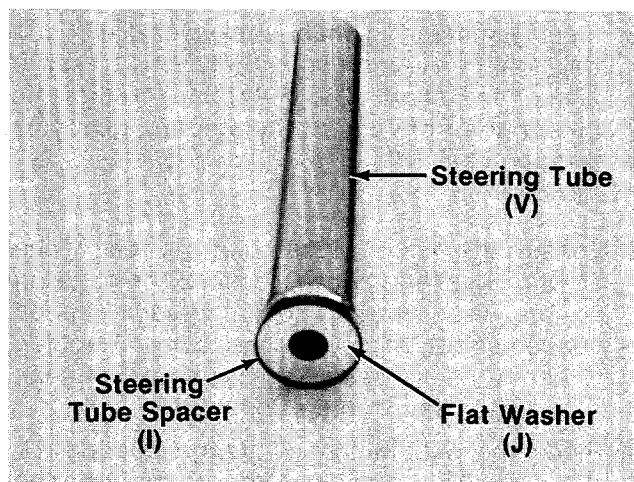

FIGURE 4.
2. Press the large **flat washer (J)** (1-5/8" diameter) into the open side of the black plastic **steering tube spacer (I)**. See figure 4.
3. Press the **steering tube spacer** into one end of the chrome-plated **steering tube (V)**. See figure 4. Make certain spacer is seated securely into tube.